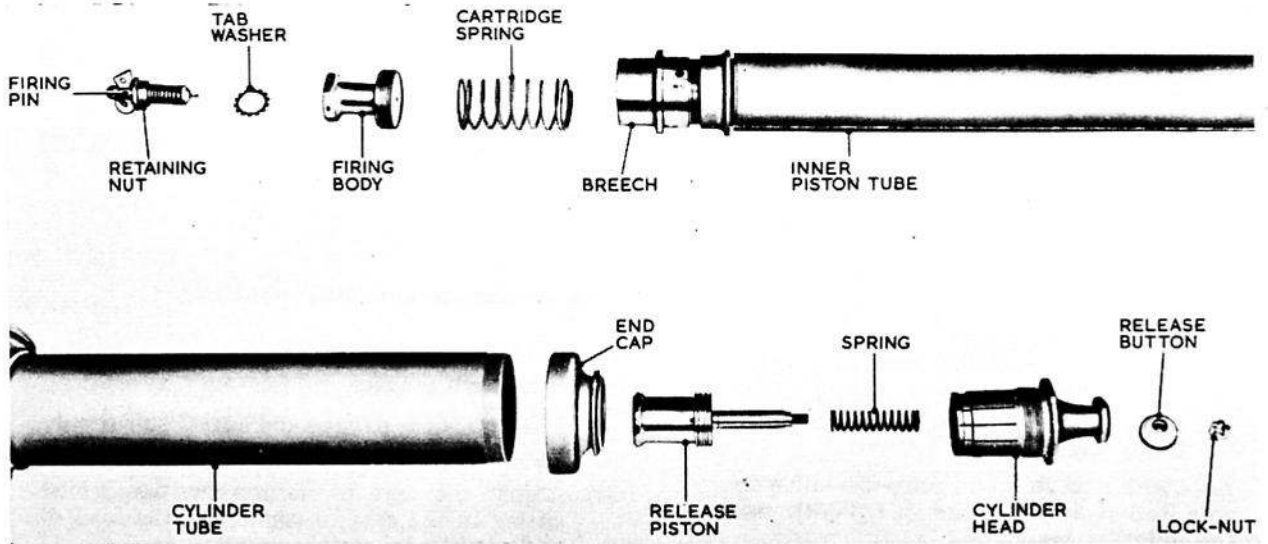

Fig. 11. Ejection gun components
- (4) If the action of the firing pin when checked as described in sub-para. (3) is unsatisfactory, the retaining nut (fig. 11) should be unscrewed with a  $\frac{5}{8}$  in. box